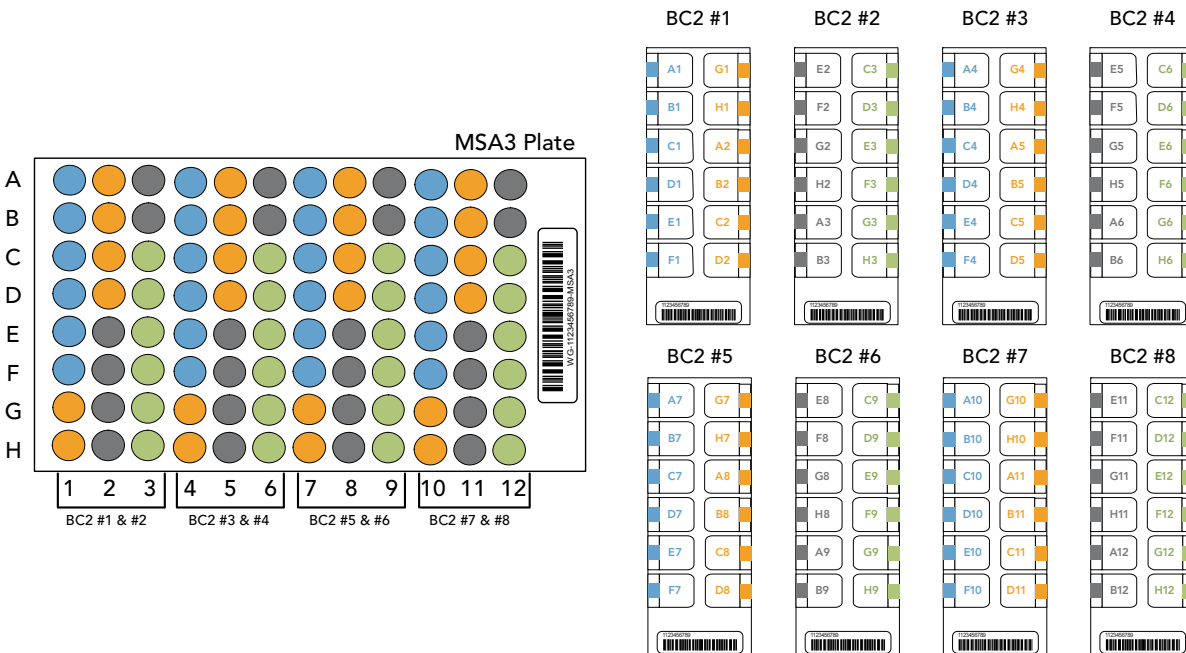

Figure 44 Distributing Sample from MSA3 Plate to BeadChip(s) (12x1 HD BeadChip)
on the lab tracking form (repeated in Figure 44) and the illustrations below:
8. Continue loading samples by following the color-coded sections (Figure 44) shown in the following graphic for any additional BeadChips and until all samples are loaded.
1. Using a multi-channel precision pipette, dispense 15 μ l of each DNA sample onto the appropriate BeadChip section, according to the chart on the lab tracking form (repeated in Figure 44) and the following illustrations:
5. Continue loading samples by following the color-coded sections shown in Figure 44 until all samples are loaded.